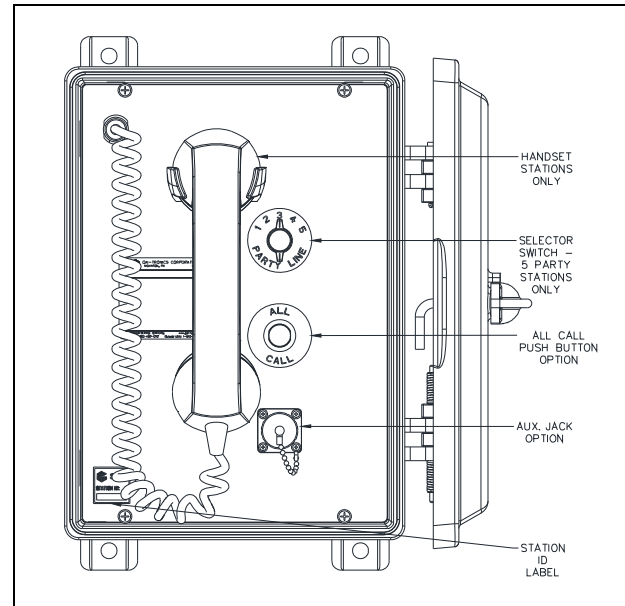
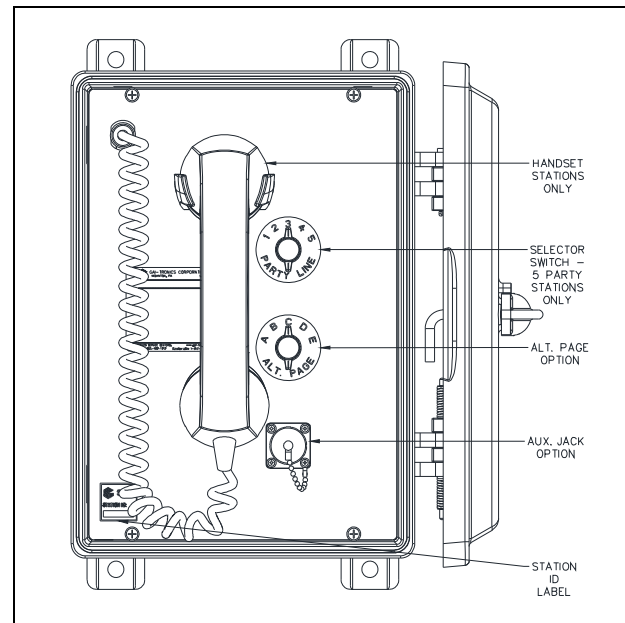

Figure 11. All-Call Button Option
Figure 12. Alternate-Page Switch Option
Use the ALL-CALL button to page an alternate destination that is programmed for the station (see Figure 11). The All-Call option must be software configured for the SP2 station. To initiate a page using the ALL-CALL feature:
Use the ALT-PAGE selector switch to page one of five alternate destinations programmed for the station (see Figure 12). Alternate page destinations must be software configured for the SP2 station. To initiate a page using the ALL-CALL feature:
1. Attach the headset assembly to the auxiliary jack on the station (see Figure 11 or Figure 12).